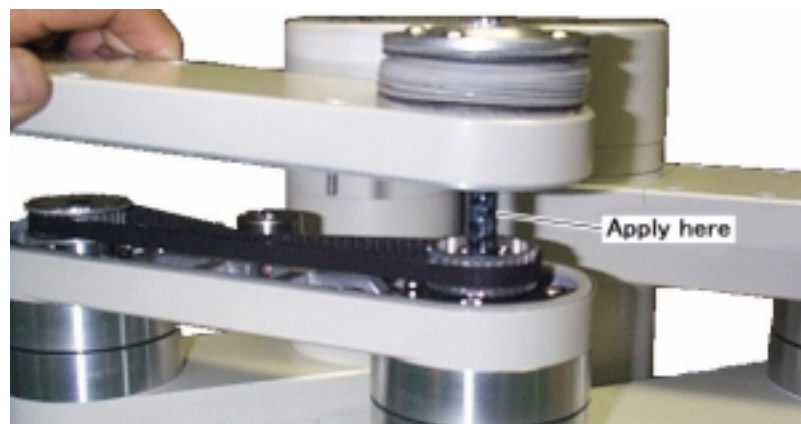

Fig.5-11 : Lubrication of the ball screw spline(RP-1AHC-SB/3AHC-SB/5AHC-SB)
- 2) Turn off the controller's power supply and wipe the old grease on the exposed ball screw spline, and then paint the grease shown in the Table 5-3 with floating an upper cover as shown in Fig. 5-11.
- 5) Turn off the controller's power supply and wipe the old grease on the exposed ball screw spline, and then paint the grease shown in the Table 5-3 with floating an lower cover as shown in Fig. 5-11.